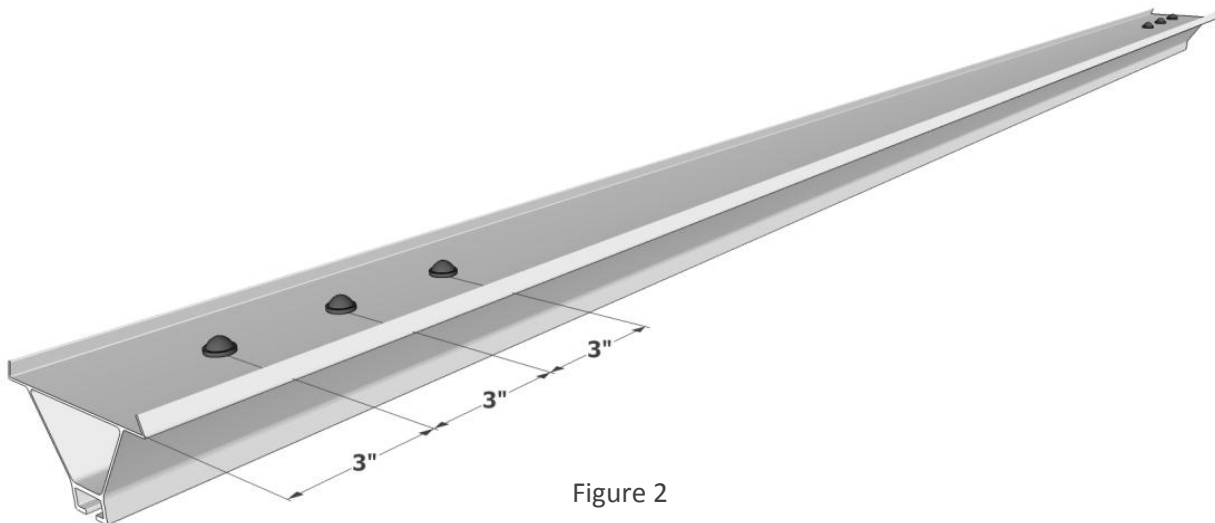

Figure 2
Step 1: Attach Roof Pads to Rails – Figures 2 and 3
Apply three self-adhering rubber buttons (supplied) to each end of the bottom of the rail. Space them 3" ($\pm \frac{1}{2}$ ") from the rail end and from each other, along the center of the rail, as shown in Figure 2.